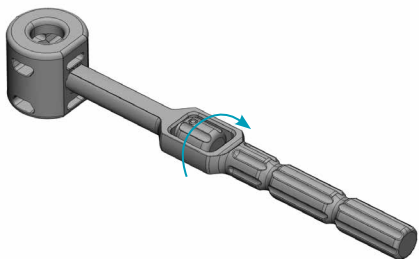

Fig. 5.1
- 5.1.** If an off-the-shelf trial is used, attach the inserter to appropriate size trial by placing the prongs of the inserter into the corresponding lateral slots in the trial and rotating the knob clockwise while holding the handle. To remove the inserter, rotate the knob counterclockwise while holding the handle. (fig. 5.1).